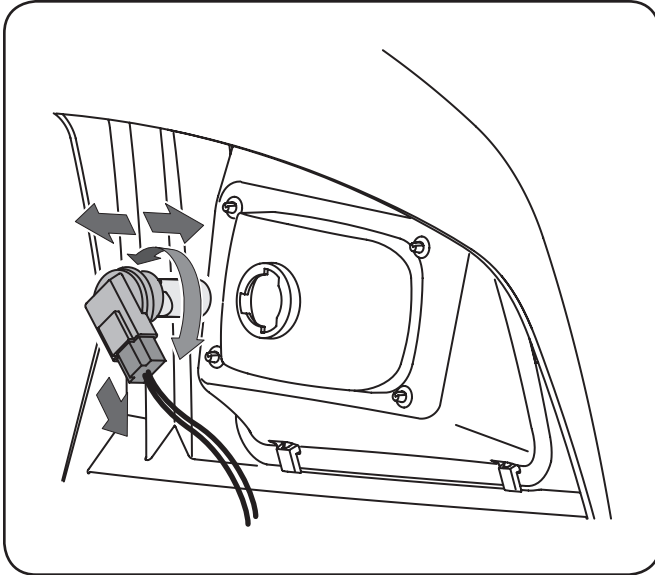

Figure 7-1
2. Turn the bulb/socket assembly approximately a quarter turn counterclockwise to align its tabs with the notches of the reflector, then remove from the reflector. See Fig. 7-1.